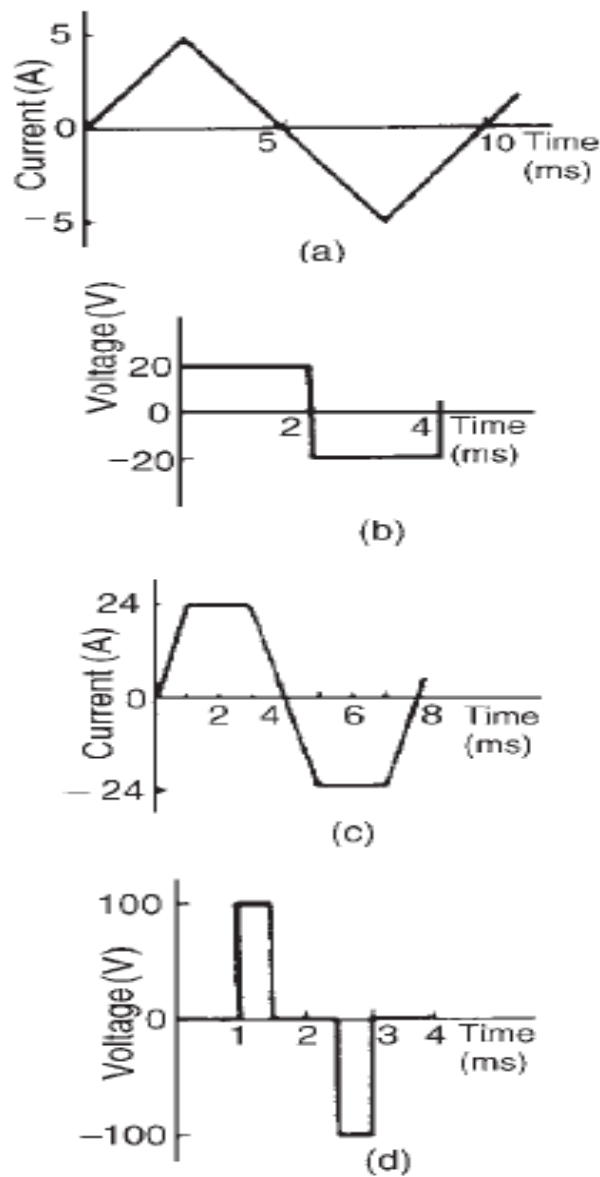

Figure:1
Q.1 For the waveforms shown in Figure 1 determine for each (i) the frequency (ii) the average value over half a cycle (iii) the rms value (iv) the form factor (v) the peak factor.